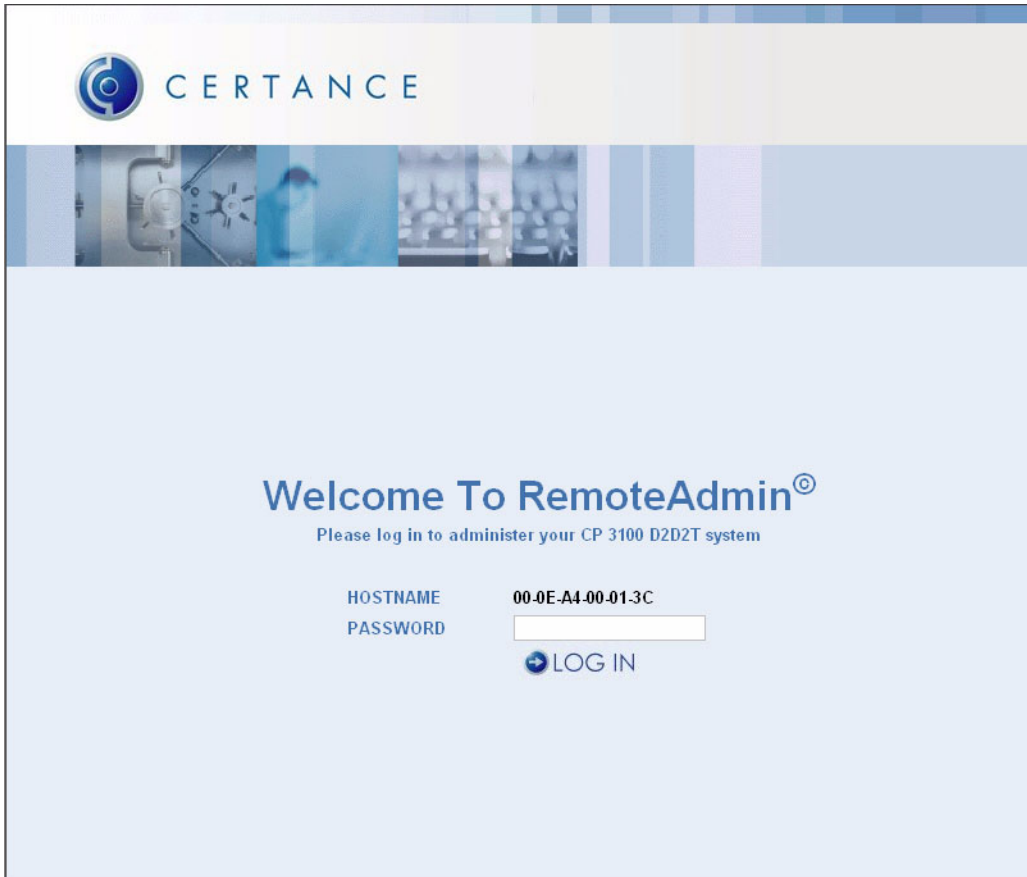

Figure 26. Welcome Page
1. Start a Web Browser on a computer that is on the same subnet as the CP 3100. In the Browser's address line, enter the IP address of the CP 3100. The Welcome page appears (see Figure 26 on page 55).